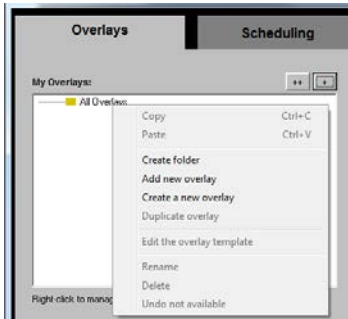

Figure 37: Setting the Overlays – Right-Clicking the All Overlays folder
1. In the Overlays tab (see Figure 37), click **+**.
1. In the Overlays tab (see Figure 37), right-click the **All Overlays** folder and click **Add overlay from scratch** or click **++**.